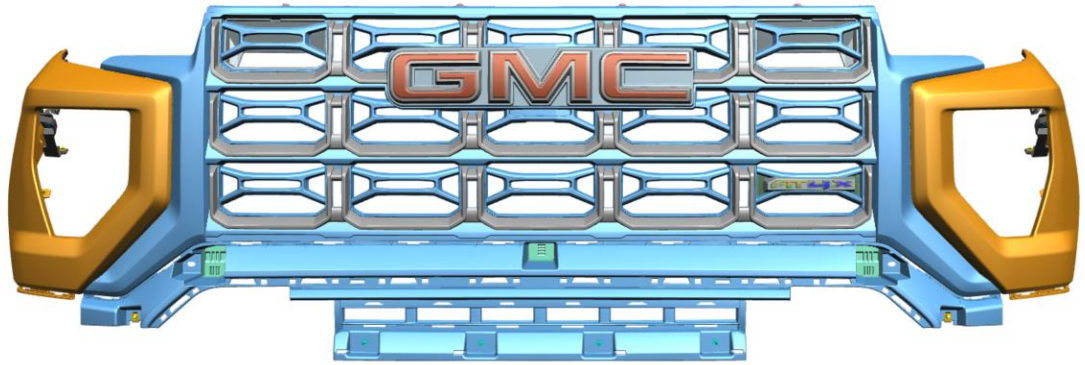

Figure 10 – Upper Front Fascia
- b. Fig. 10, 11, 12, & 13 for trimming measurements